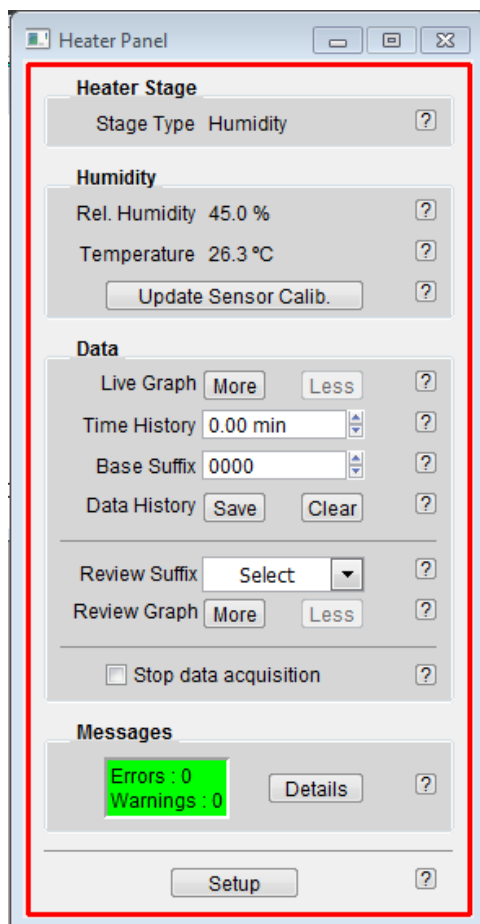

Figure 29.2.: Humidity Control Panel.
7. A humidity control panel (see Figure 29.2 on page 416) should appear on the screen. If it does not, you can always bring it to the front by selecting *AFM Controls* ▸ *Humidity Panel*.